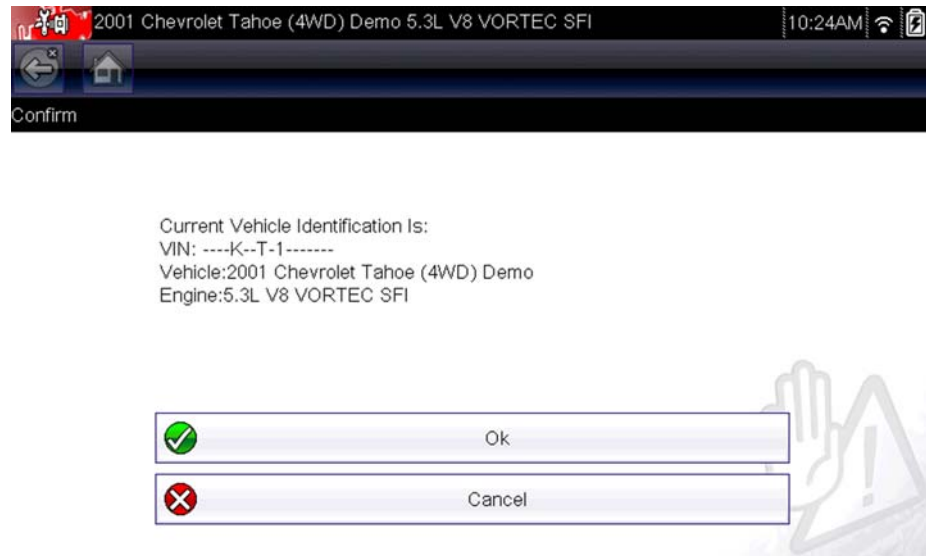

Figure 3-2 Vehicle confirmation screen
- a. Instant ID may occur, as indicated by an audible "beep" sounded within 5 seconds after the diagnostic tool turns on. Select the **Scanner** icon, then wait for the vehicle confirmation screen (Figure 3-2) and select **OK** to continue. Then proceed to **step 6**. See Instant ID, on page 19, for additional information about this function.
- b2.) Once the vehicle has been identified, the vehicle confirmation screen displays (Figure 3-2). If the vehicle information is correct, select **OK** to continue, then proceed to step 6.